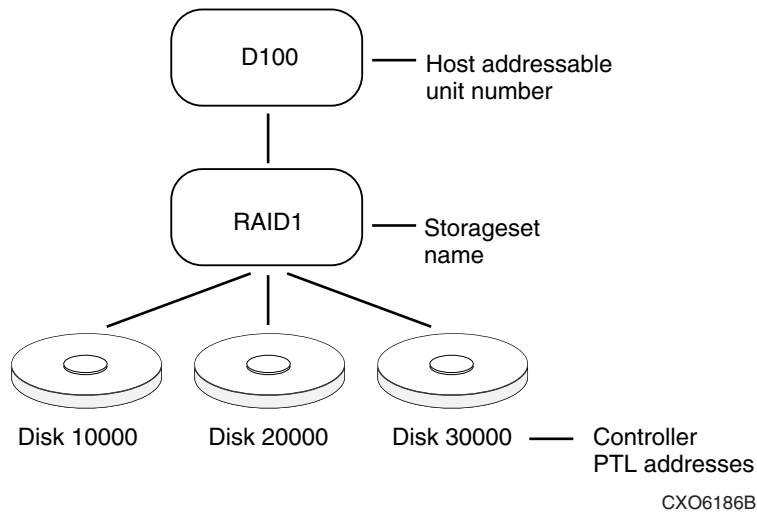

Figure 20: Mapping a unit to physical disk drives
The HSG80 controller has six SCSI device ports, each of which connects to a SCSI bus. In dual-controller subsystems, these device buses are shared between the two controllers. (The StorageWorks Command Console calls the device ports “channels.”) The standard BA370 enclosure provides a maximum of four SCSI target identifications (ID) for each device port. If more target IDs are needed, expansion enclosures can be added to the subsystem. For an example of how units are mapped to physical disk drives, see Figure 20.